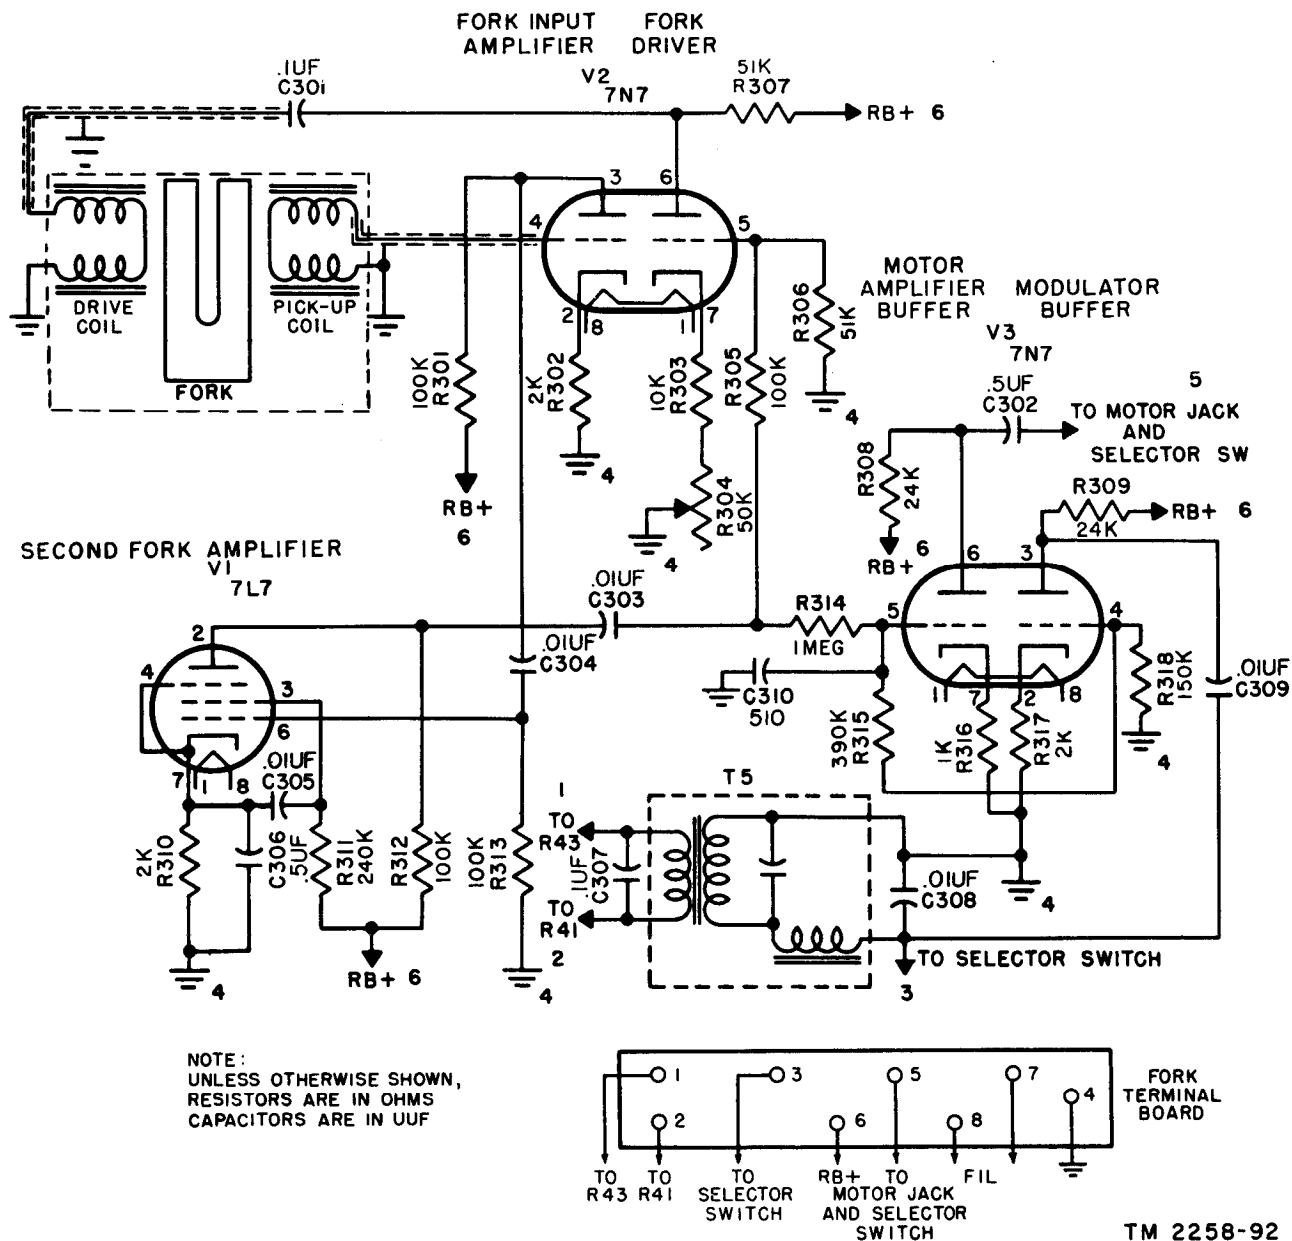

Figure 39. Sealed fork oscillator unit, schematic diagram.
*a. Block Diagram.* Figure 38 shows, in block diagram form, the signal paths in the sealed fork oscillator unit. One-half of V2 picks up the weak signal from the fork and amplifies it enough to drive V1 so that the output of V1 is constant despite minor variations in input. The constant level output of V1 is amplified in the other half of V2, the output of which feeds the drive coils of the tuning fork. Part of the output of V1 is impressed on V3, one section of which feeds the motor amplifier and exciter lamp amplifier circuit, and the other section of which feeds the photocell bridge modulator circuit. A complete schematic diagram of the sealed fork oscillator unit is shown in figure 39.
b. *Fork Input Amplifier Fork Driver* (fig. 39). Dual triode tube V2 (7N7) serves as the fork input amplifier and fork driver.
- (1) *Fork input amplifier*. Pins 2, 3, and 4 comprise the fork input amplifier which is fed 1,800-cycle energy generated in the pick-up coil by the vibrating fork. Resistor R302 is the unbypassed cathode resistor. Plate voltage is applied to pin 3 from the regulated +250-volt supply through plate load resistor R301. The output developed across the resistor is coupled to the grid (pin 6) of the second fork amplifier V1 (7L7) through coupling capacitor C304.
- (2) *Fork driver*. Pins 5, 6, and 7 comprise the fork driver. Input to the grid (pin 5) is received from the plate of V1 through coupling capacitor C303 and series resistor R305. Limiting resistor R305 and grid resistor R306 serve, as a voltage divider for the input to this section of V2. Regulated +250 volts is supplied through plate load resistor R307. Output from the plate is coupled through C301 to the drive coil which keeps the fork oscillating. The cathode circuit consists of two unbypassed resistors: fixed resistor R303 and variable resistor R304. Adjust R304 to compensate for minor changes in the frequency of the fork.
c. *Second Fork Amplifier* (fig. 39). Second fork amplifier V1 (7L7) is an amplifying link in the oscillator circuit composed of the fork, the input amplifier, the second fork amplifier, and the fork driver. The grid (pin 6) is fed from the plate (pin 3) of V2 through coupling capacitor C304. The grid voltage is developed across resistor R313. Cathode resistor R310 is bypassed by C306. Screen voltage is supplied through dropping resistor R311 and the screen is bypassed to cathode by C305. The plate load resistor is R312 and the 1,800-cycle output from the plate (pin 2) is coupled to the fork driver through C303 and limiting resistor R305. Part of the output of V1 is applied to the dual buffer output stage V3 through limiting resistor R314.
d. *Fork Output Amplifier* (fig. 39). The fork output stage V3 is a 7N7 dual triode tube. It consists of two buffer amplifiers, fed by second fork amplifier V1. This tube supplies an 1,800-cycle signal to motor amplifier stage V4, the exciter